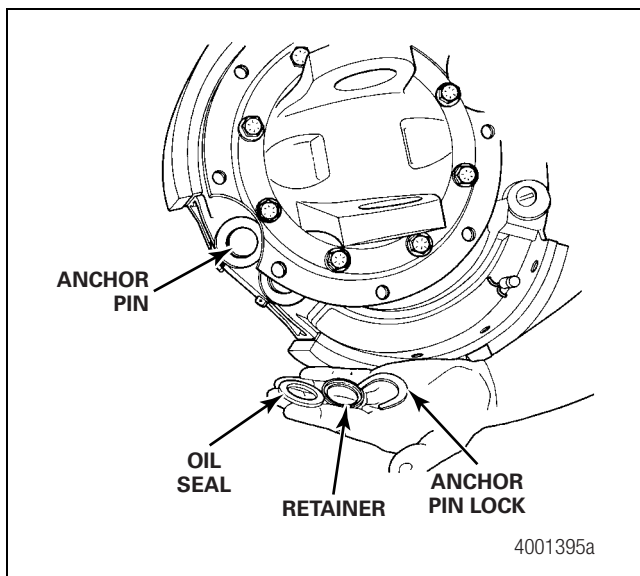

Figure 5.26
7. Install the oil seal and the oil seal retainers onto the anchor pins. Install the snap ring. Figure 5.26.